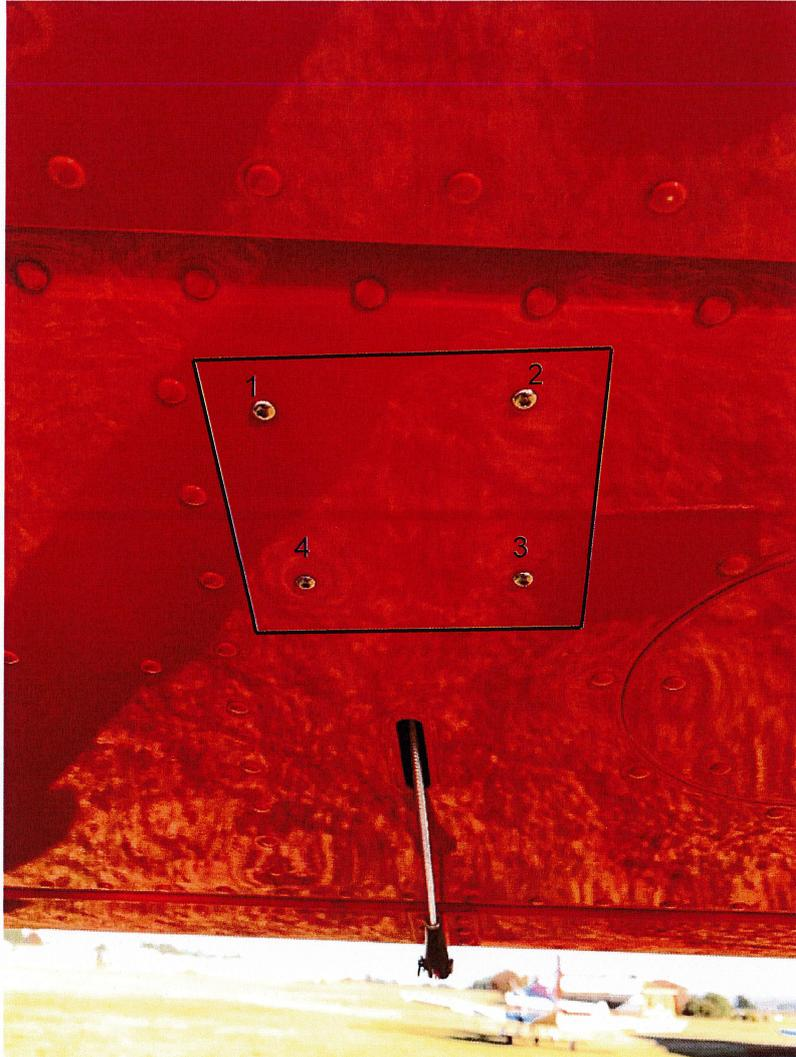

Figure 1: Ensure all four attaching screws are present
- a) The trim tab motor is secured to the elevator skin with four M3x10mm button head screws. Check that all four screws are present as shown in Figure 1.